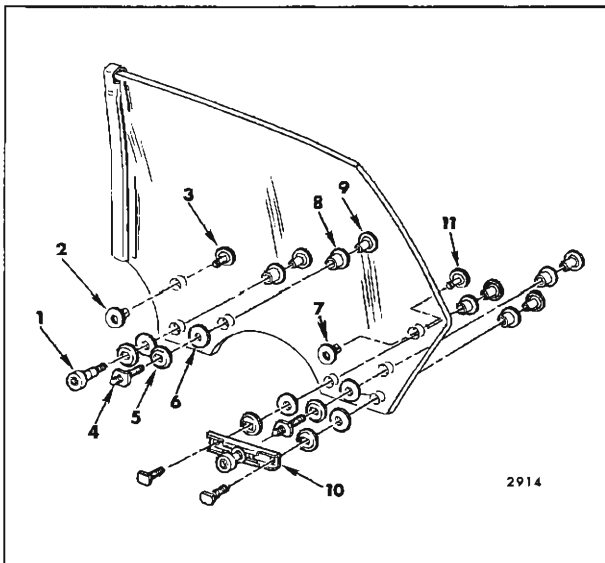
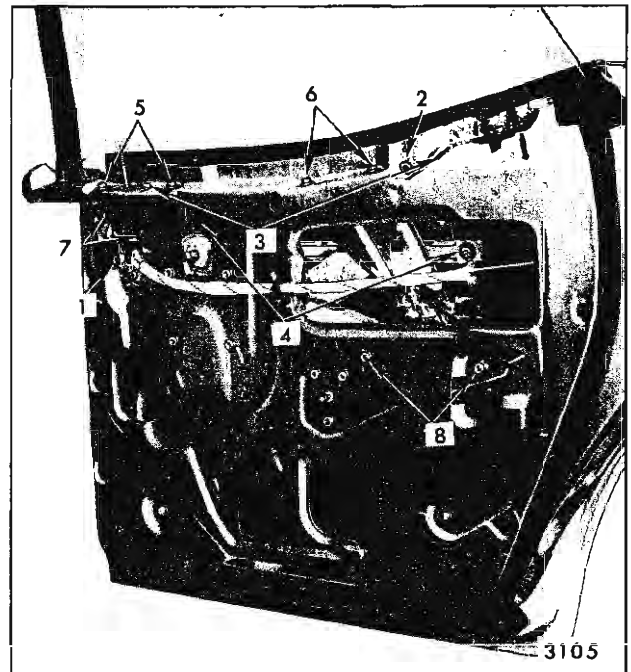

Fig. 6-118—Rear Door Window Assembly - "A-39" Styles
Fig. 6-119—Rear Door Window Removal and Adjustments - "A-39" Styles
Figure 6-118 is an exploded view of the window assembly and identifies the various components and their assembly sequence.
2. Remove window front up-stop from guide ("1", Figure 6-119) and rear up-stop from door inner panel ("2", Figure 6-119).
3. Loosen front and rear window stabilizer strip assembly bolts ("3", Figure 6-119) and remove stabilizer strips.
4. With window in full-up position, remove lower sash channel cam to glass attaching stud nuts ("4", Figure 6-119).
1. In-and-out adjustment of the glass is controlled by the in-and-out adjustment available at the top of the front and rear guides ("5" and "6", Figure 6-119) and the in-and-out position of the glass stabilizer strip assemblies ("3", Figure 6-119).
2. Fore-and-aft adjustment of the window assembly is controlled by the position of the front guide. The upper attaching locations in the front guide upper support ("7", Figure 6-119) are slotted to permit fore-and-aft adjustment of the guide. Because of the free floating roller in the window rear sash channel cam (Figure 6-118) the rear guide does not have to be adjusted during fore-or-aft window alignment.
3. Ease of window operation and window stability depend to a great extent on the adjustment of the window stabilizer strip assemblies at the beltline ("3", Figure 6-119).
4. A window that is rotated (cocked) in the window opening may be the result of an improperly adjusted inner panel cam ("8", Figure 6-119) or poorly adjusted up-travel stops ("1" or "2", Figure 6-119).
5. The up-travel of the window is determined by the adjustment of the front and rear up-stop ("1" or "2", Figure 6-119). To adjust window up-travel, loosen front and rear up-stops and